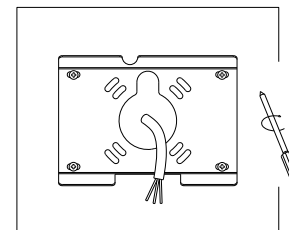

Figure 3
3. Align mounting bracket with hole; tighten screws. (Figure 3)